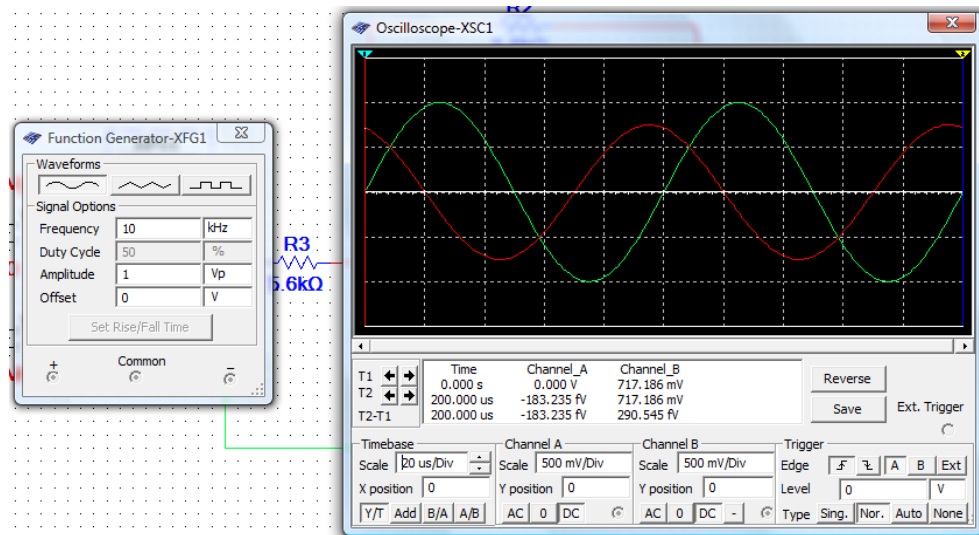

Fig.2. Windows of virtual generator and oscilloscope in NI Multisim.
- start an interactive simulation and observe output signal at different frequencies (Fig. 2),